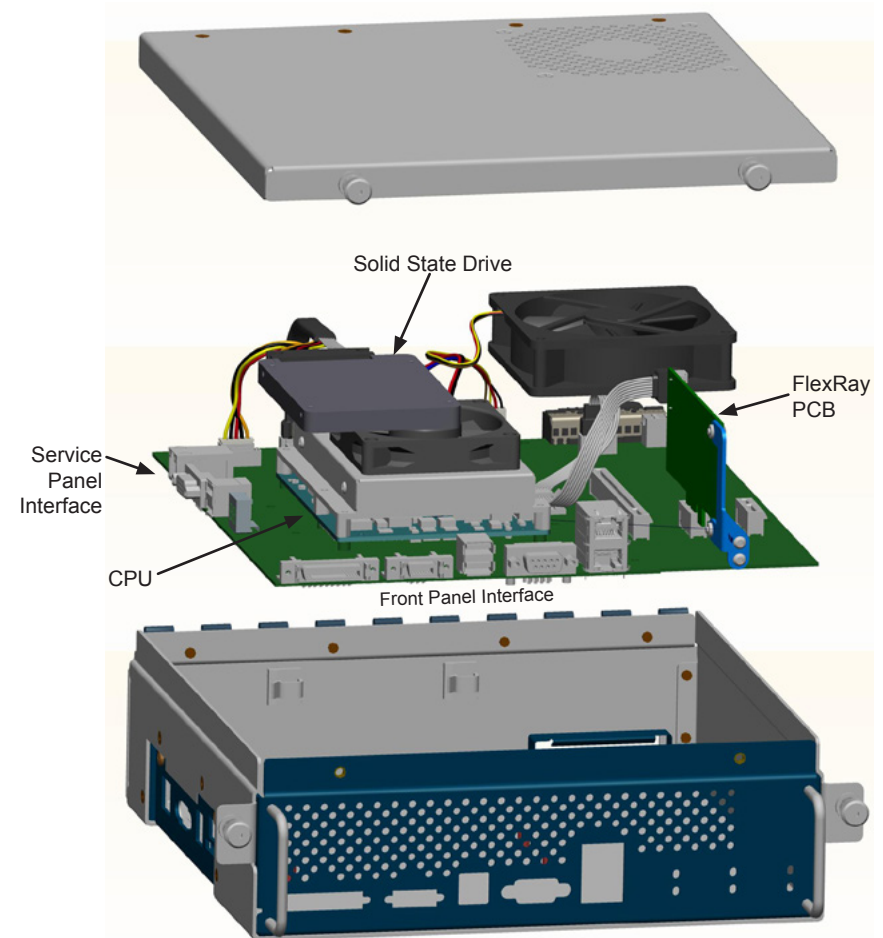
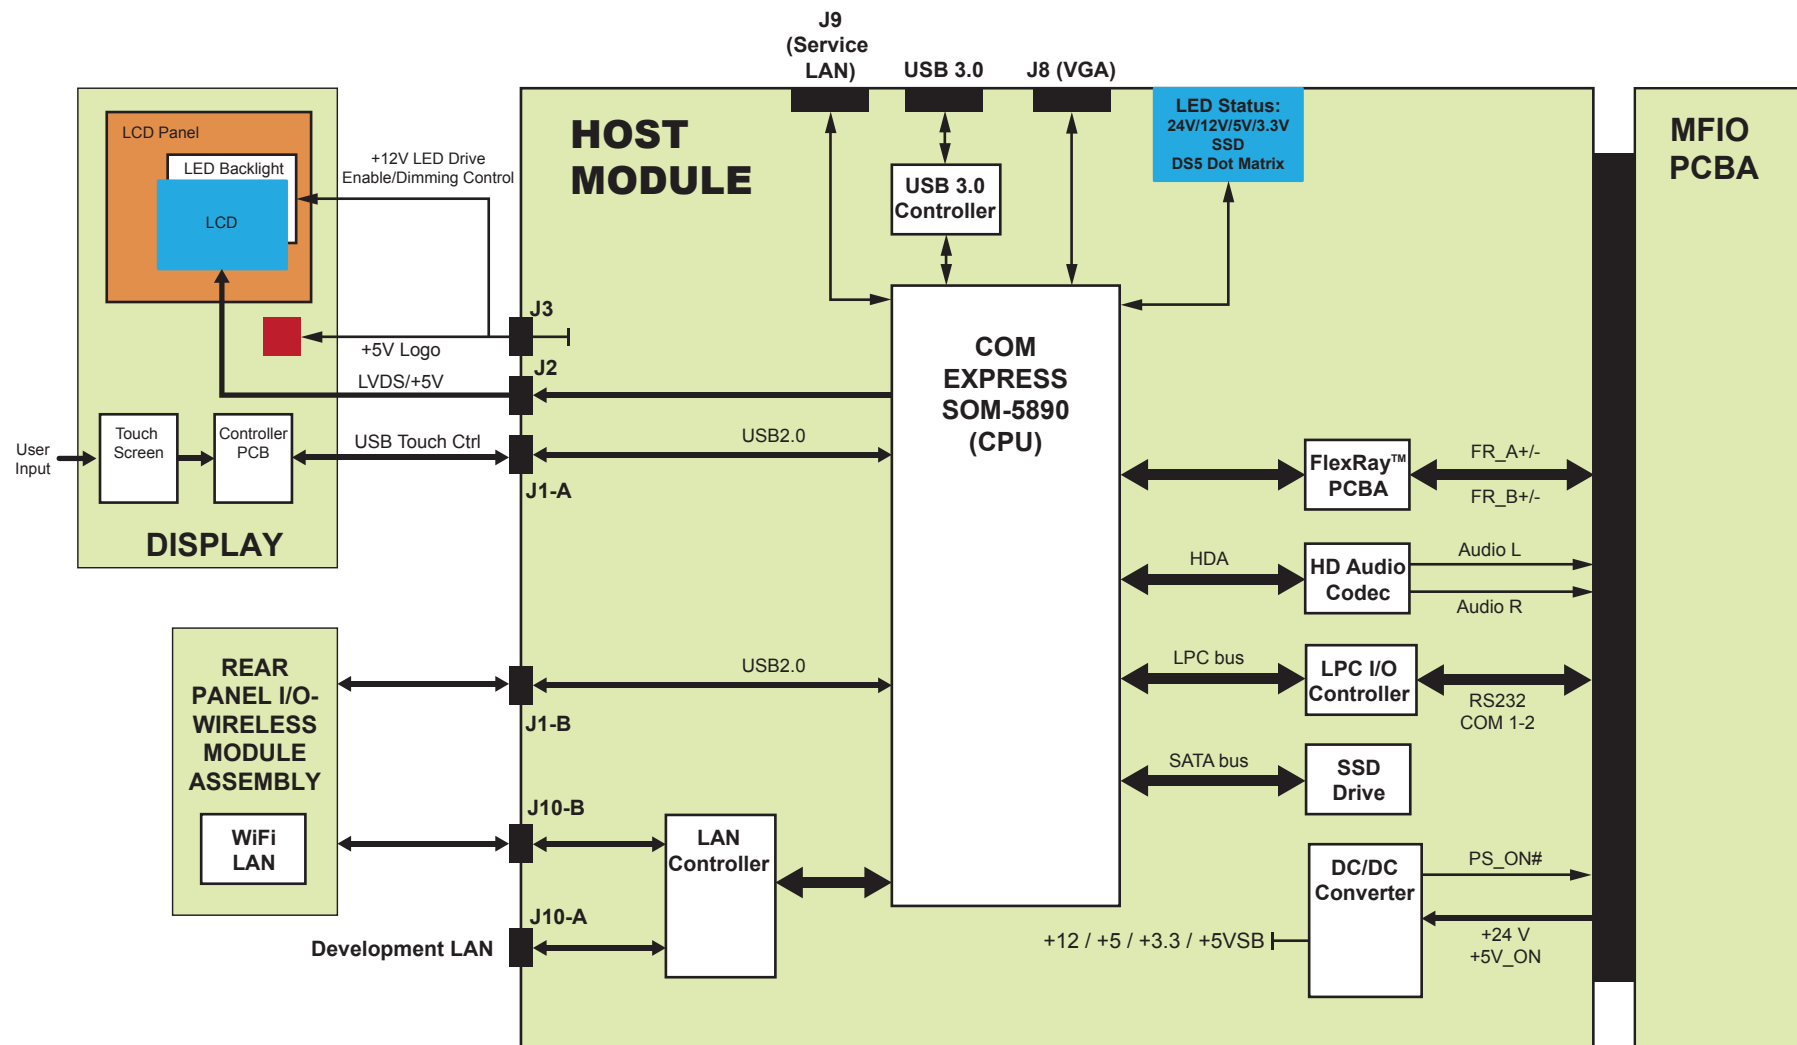

Figure 2-4 Host Module
Figure 2-5 Host Module - Display Block Diagram
- 4.1 The Host Module shown in **Figure 2-4** uses a custom COM-Express CPU module to communicate system level controls to subsystem modules through a PCIe FlexRay Controller located inside the host module. In addition it controls the display and processes user input from the touch screen. **Figure 2-5** shows a block diagram the Host module.
- 5.1 The Display Module is the primary user interface for the system. The LCD displays the GUI (Graphical User Interface) and the Touch Screen accepts user input. *Figure 2-5* shows the electrical block diagram for the module. The Display Module is mounted to the Front Panel which is designed so that it can be repositioned to accommodate different user positions around the front of the console.